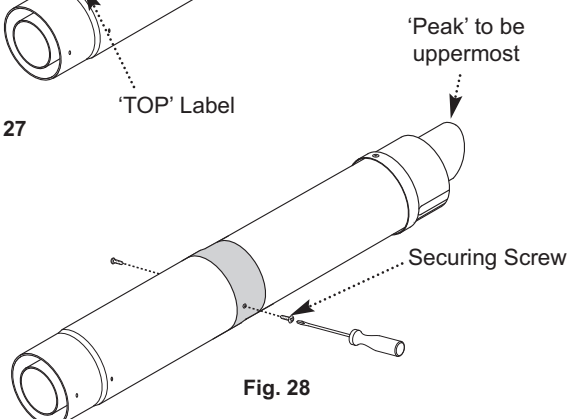

Fig. 28
9. Using the clearance holes in the connection assembly secure it to the terminal assembly using the screws supplied with the telescopic flue (Fig. 28).